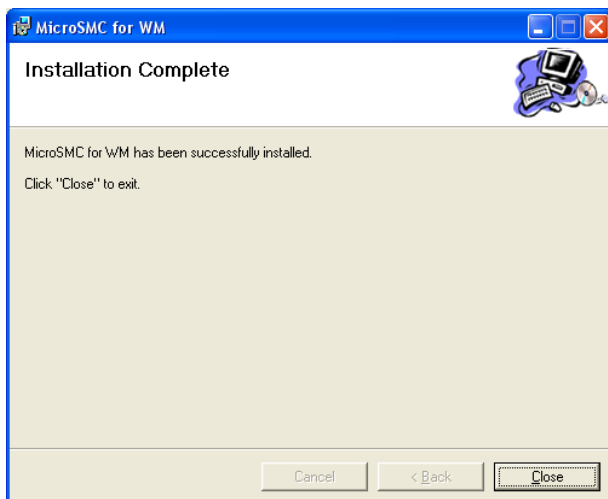

Figure 59. MicroSMC for WM host PC installation last screen
- Click "Close" to finish all installation process (see Figure 59)